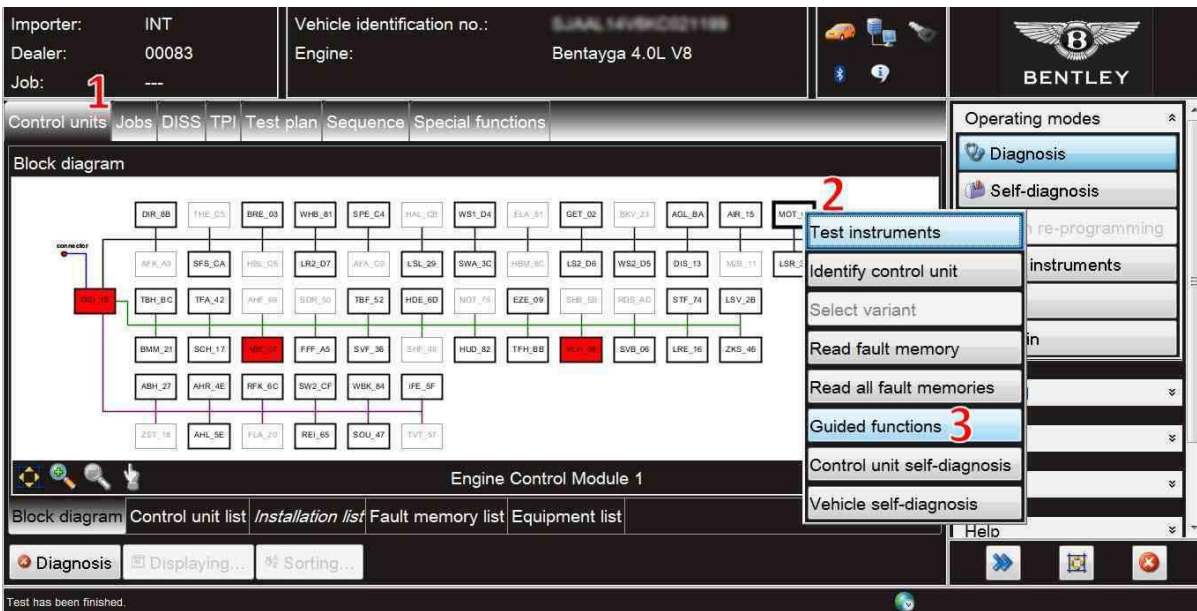

Figure 6
- Referring to Figure 6- Navigate to the select control units tab (1) - Select (2) 'MOT_01' Engine Control Module 1 - Select Guided Functions (3)